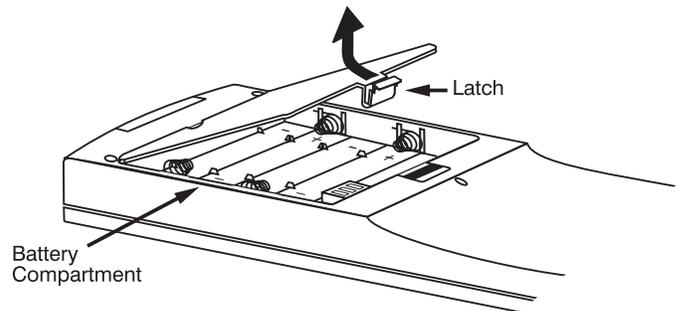
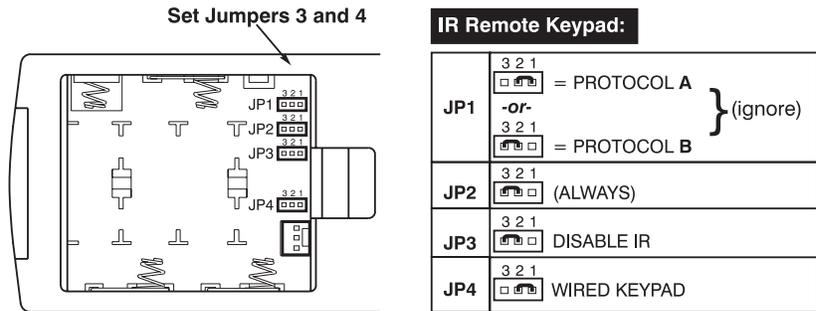
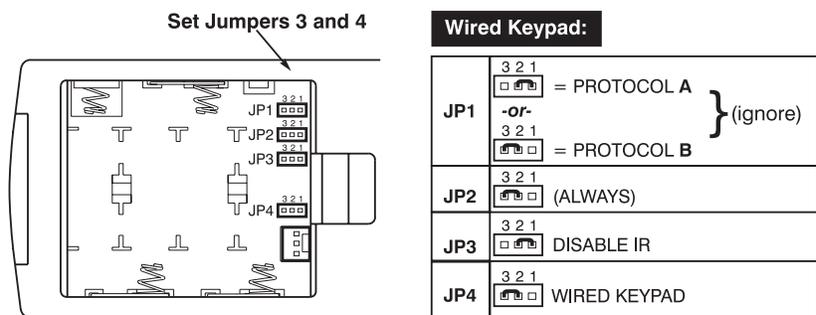

Figure 2.50. Open Keypad for Jumper Access
Figure 2.51. IR Jumper Settings
Figure 2.52. Wired Jumper Settings
If desired, you can convert the Cine-IPM’s wired keypad into an IR remote keypad, and vice versa. Simply open the keypad (Figure 2.50) and use tweezers or needle-nose pliers to set jumpers 3 and 4 as shown in Figure 2.51 (IR) or Figure 2.52 (wired). Add or delete the batteries or cable as required.
- Set jumpers 3 and 4 for “IR” jumper settings as shown in Figure 2.51.
- Set jumpers 3 and 4 for “wired” jumper settings, as shown in Figure 2.52.